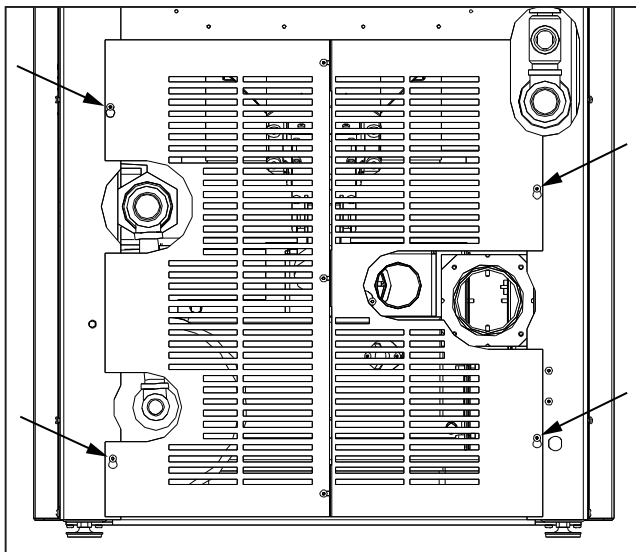

Figure 12
2. Loosen the four (4) screws pointed out in Figure 12. Lift the back grill up and remove it from the unit.